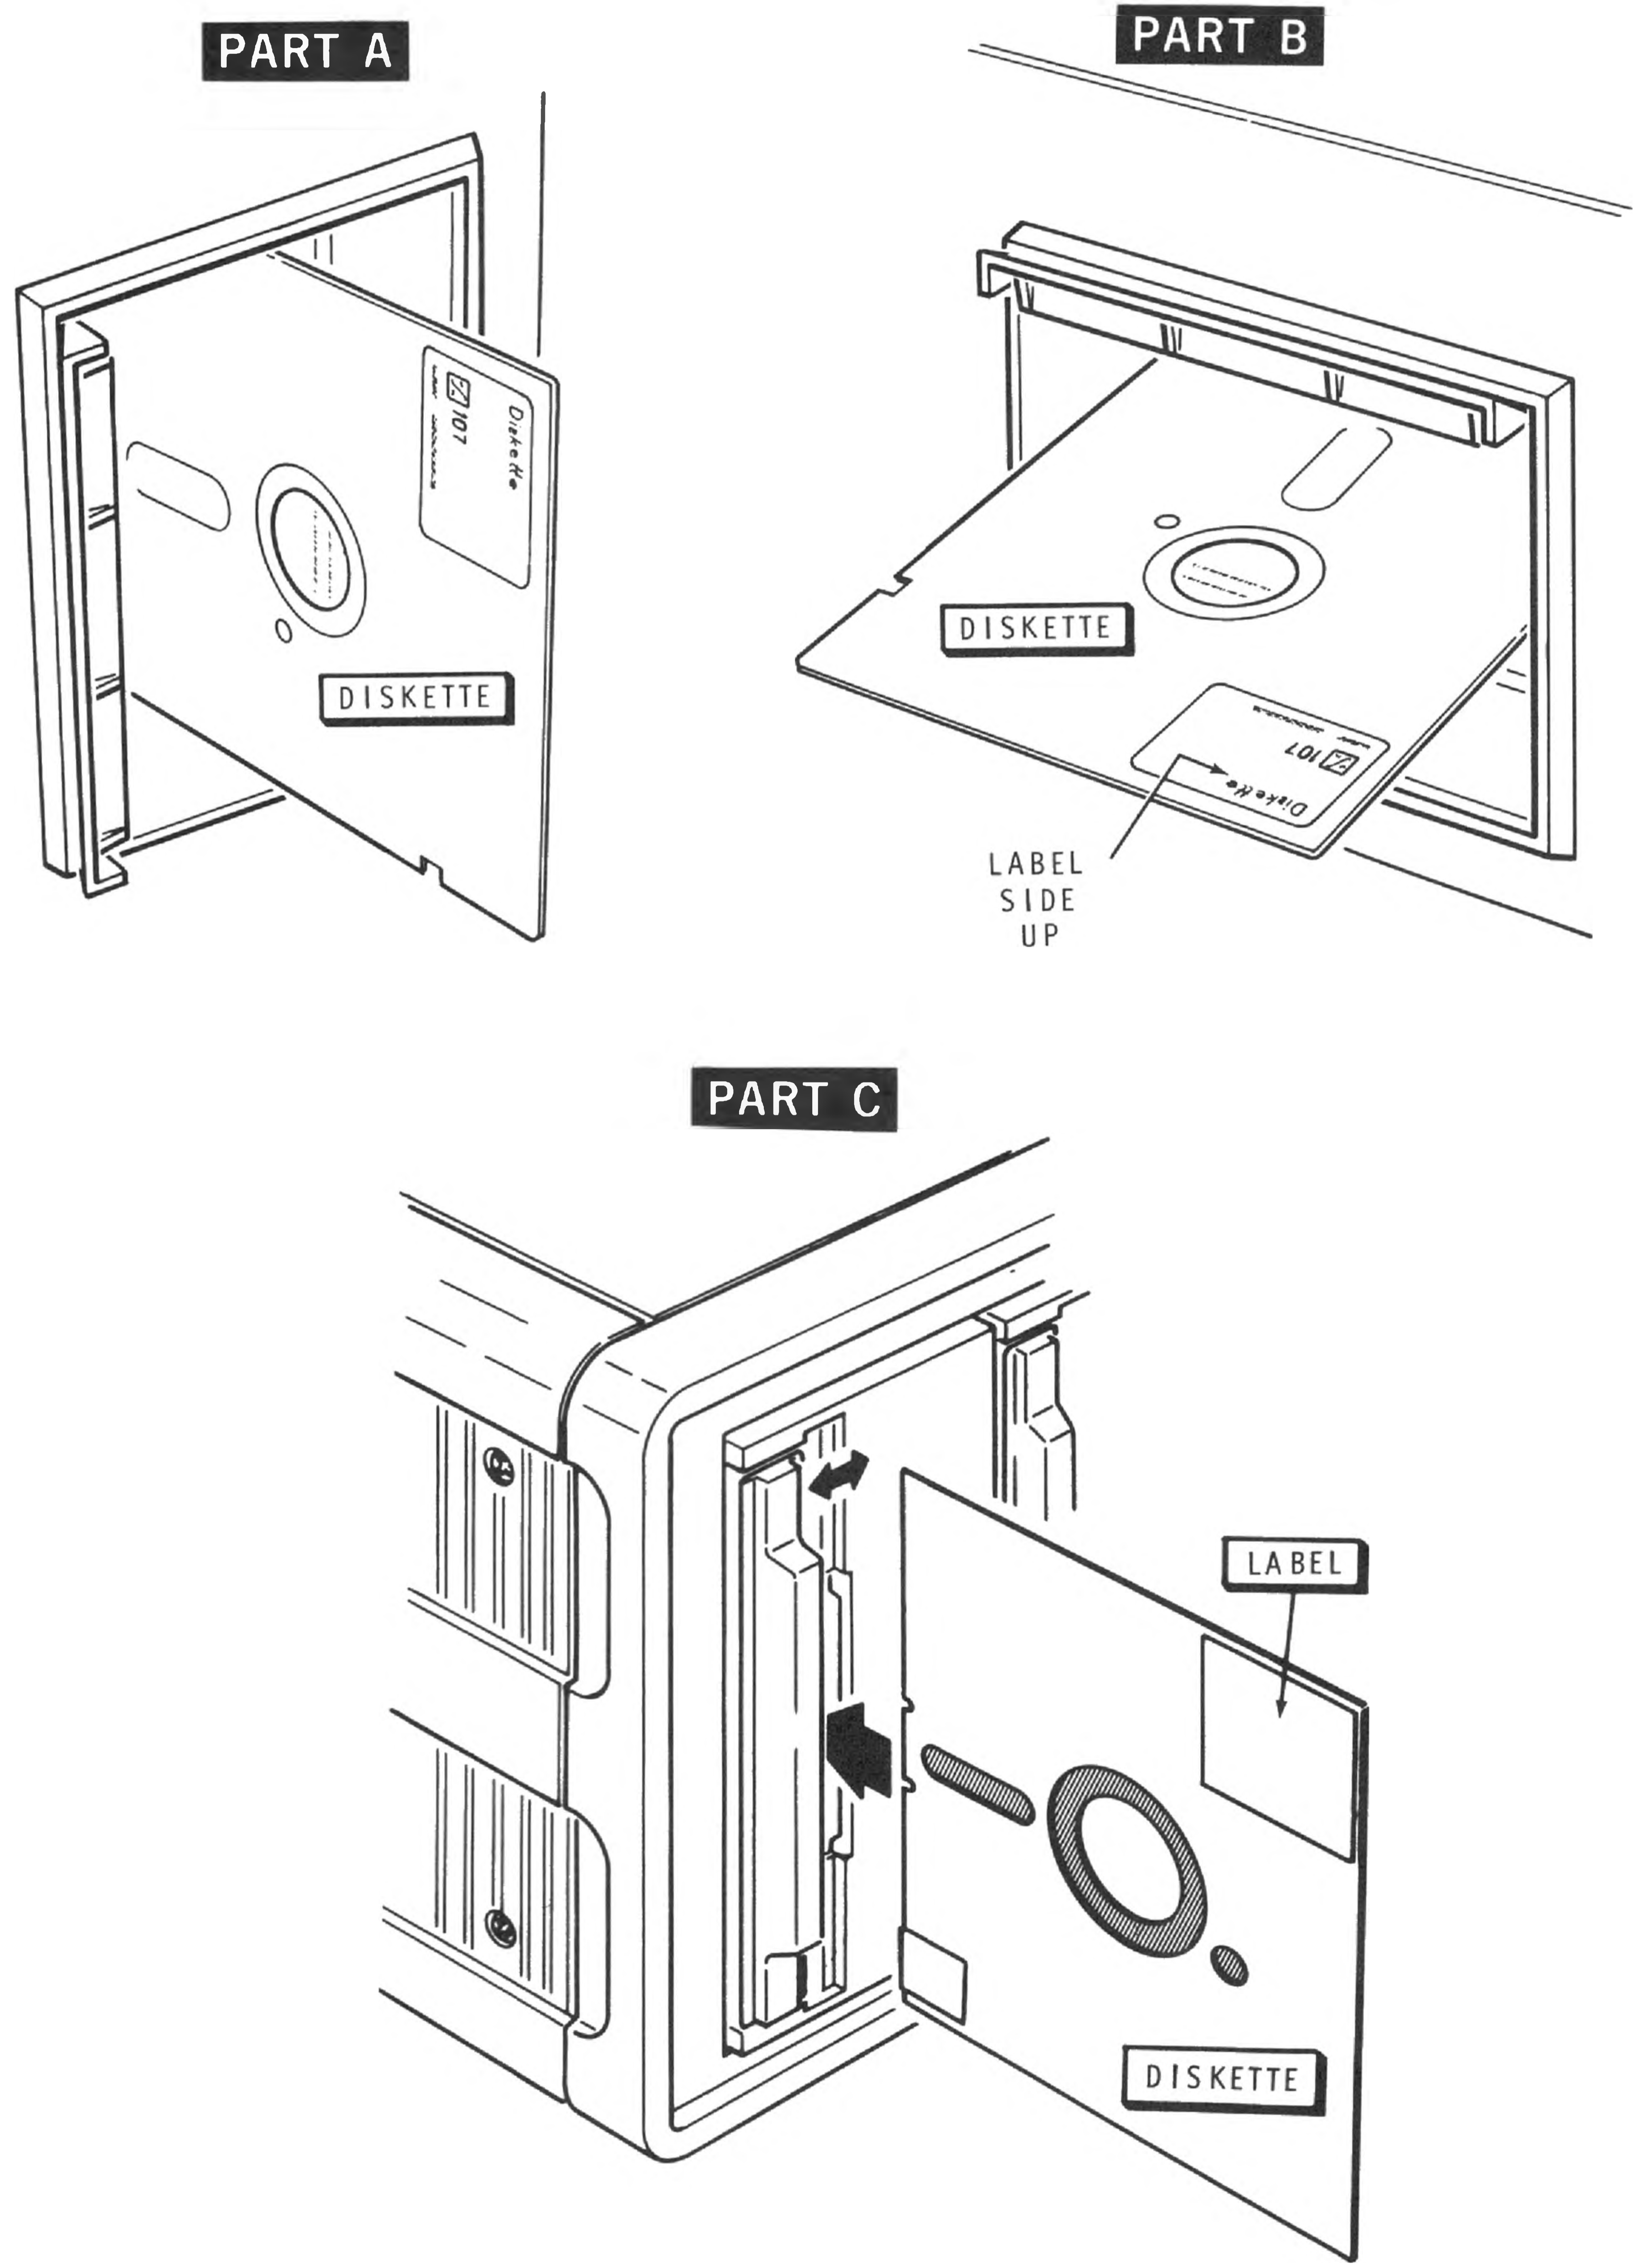

Figure 1-2
3. Install the distribution diskette in the disk drive unit that has been hardware configured as primary boot drive 0 (see Figure 1-2). Close the door of the drive unit after you have inserted the diskette.